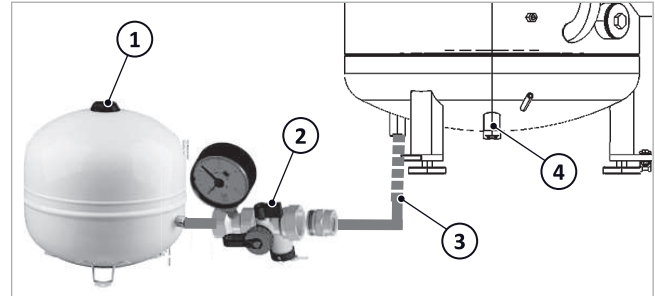

Fig. 4: MEV with connection group on the SolvisBen
The SolvisBen can be enhanced with a thermal solar system. It already includes a solar stratified charger → fig. 4 (4) for optimal stratification of solar heat in the storage tank and all the control functions for solar operation in the system controller.